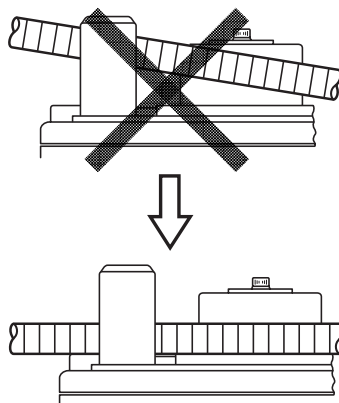

Fig. 10
- Place the rebar on the center plate and set it so that it is horizontal with the turntable surface. If the side that is to be bent is set inclined upward, the rebar can come loose from the bending roller while bending causing it to fly off. (Fig. 10)